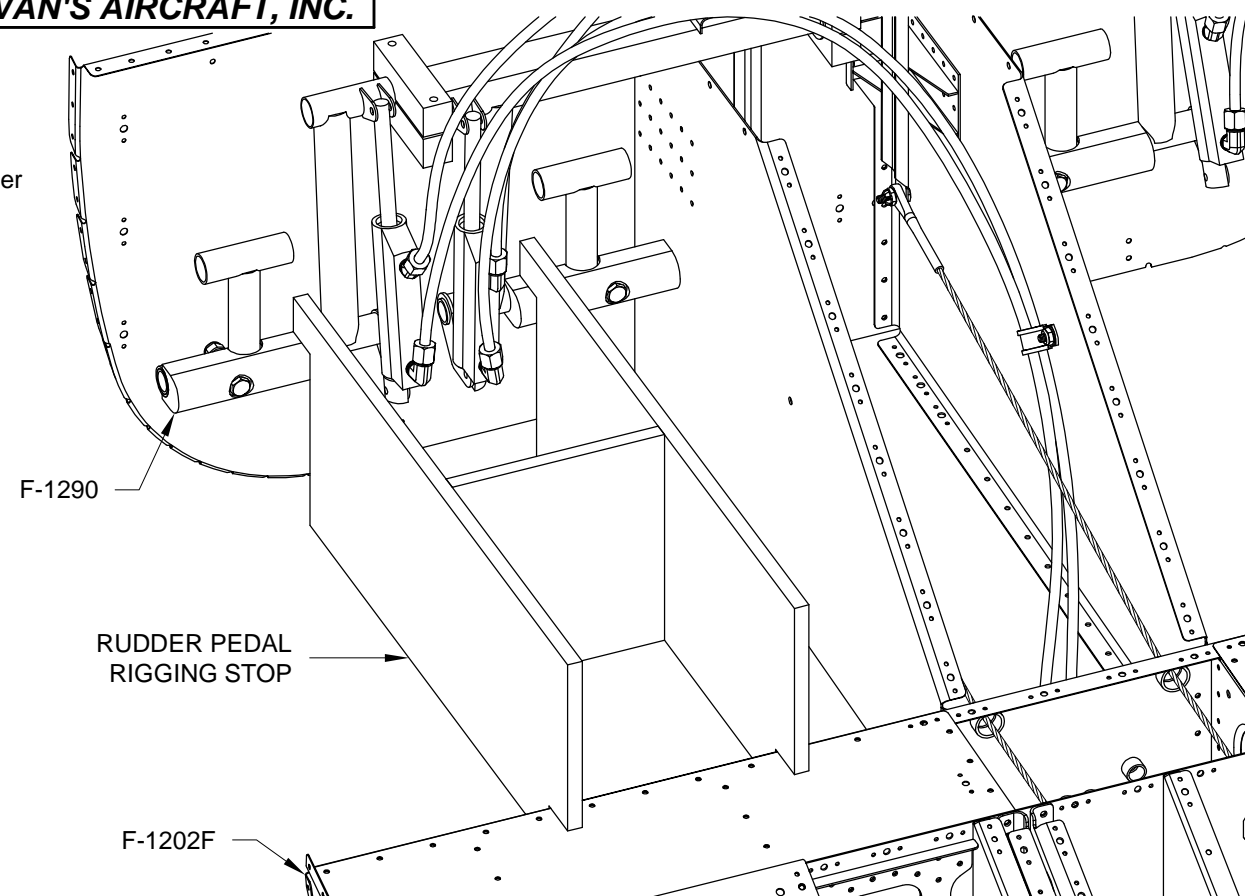

FIGURE 1: SETTING THE RUDDER PEDAL RIGGING STOP
Step 1: Set the Rudder Pedal Rigging Stop between the F-1290 Pedal Blocks and the F-1202F Bulkhead as shown in Figure 1.